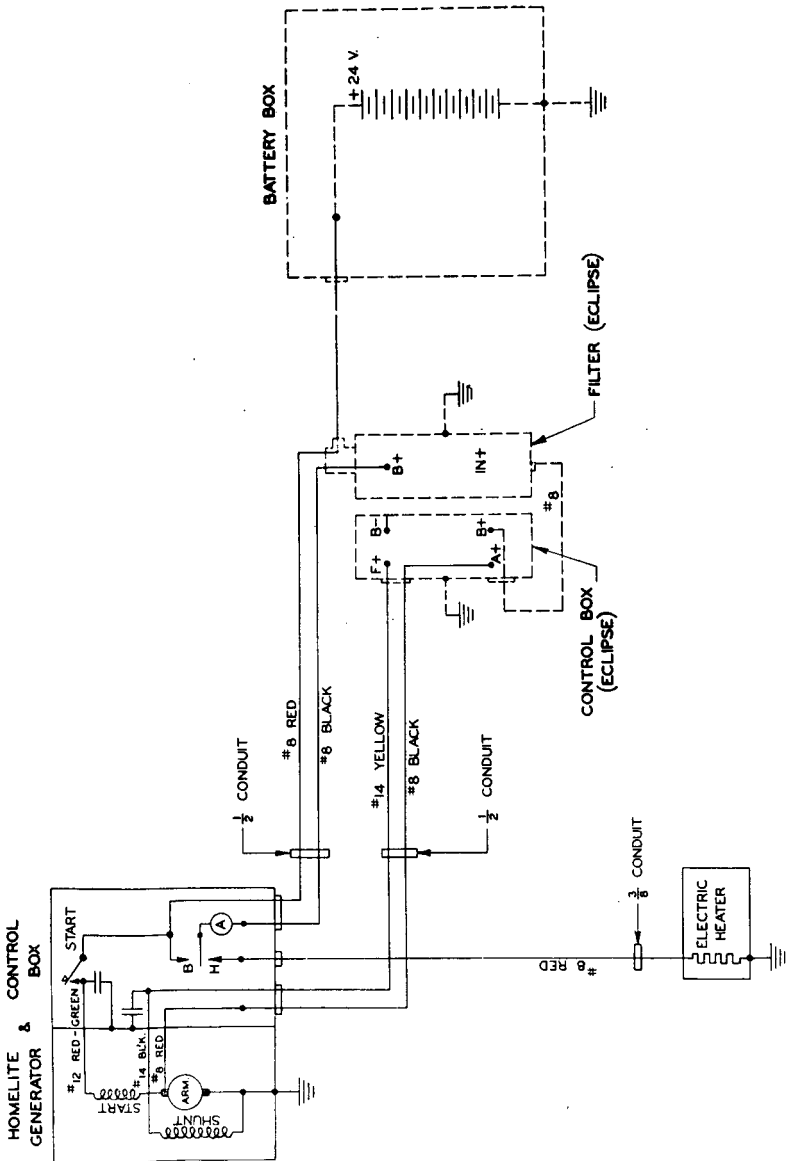

FIGURE 12.—Generator and controls, schematic wiring diagram.
b. *Generator.*—See the check lists (pars. 9 and 10) and then check the following items (see figs. 12, 13, and 14) :